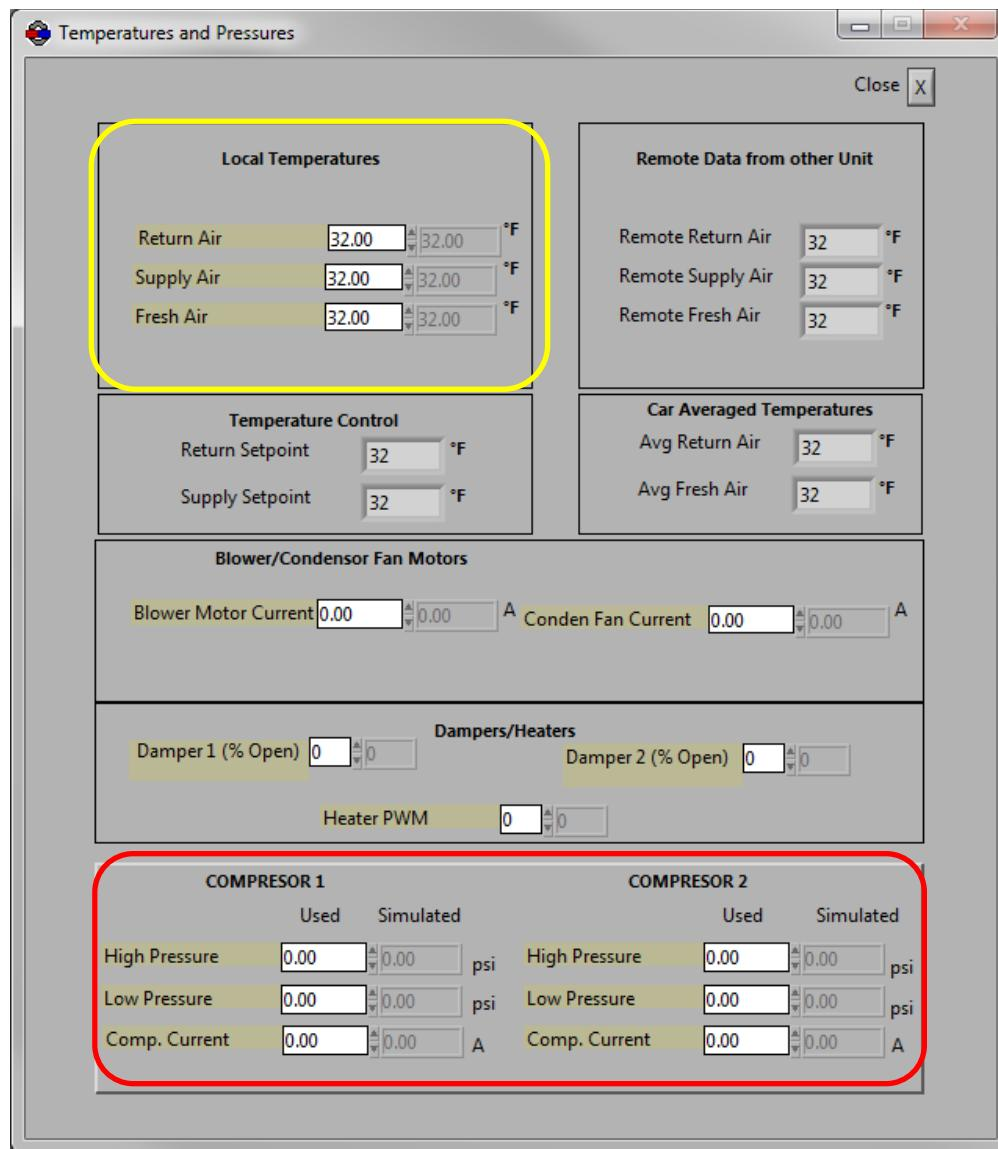

Figure 8-3. Temperatures and Pressures Screen
3. On PTU Temperatures and Pressures screen (Figure 8-3), set the following Local Temperatures (yellow box) values to 100°F.